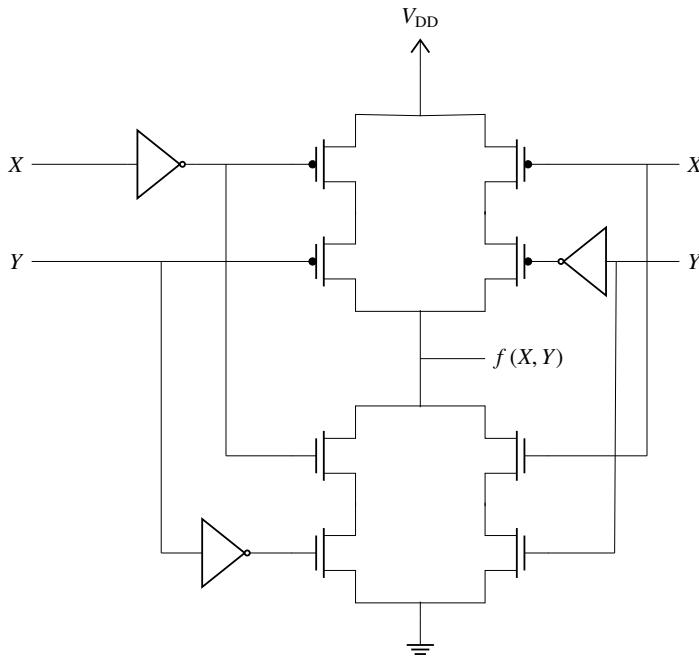

Fig. 3.22
39. The logic function $f(X, Y)$ realised by the given circuit in Fig. 3.22 is